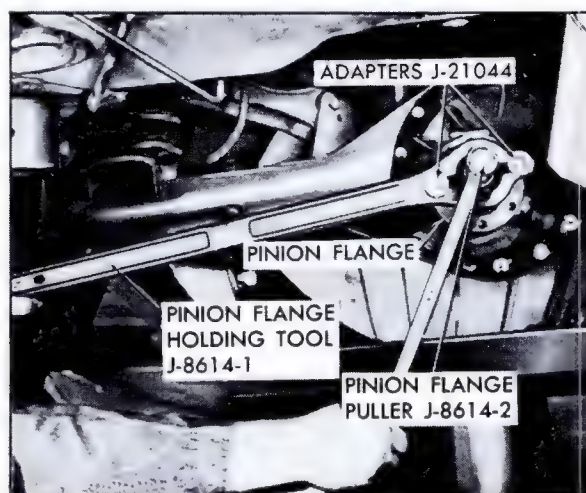

Fig. 4-42 Installing Pinion Oil Seal
2. Using 1-1/4 inch socket, 3/4 to 1/2 inch adapter and extension, press oil seal into carrier by tightening pinion nut, Fig. 4-42, until Installer Tool bottoms on face of carrier. When installed, seal case will protrude approximately 3/32 inch from machined face of carrier.